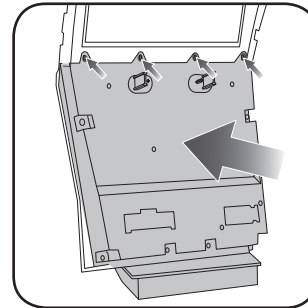

Fig. 3.3
3. Snap the EDG3 backplate onto the bezel assembly and secure with the four included Phillips screws (Fig. 3.3)